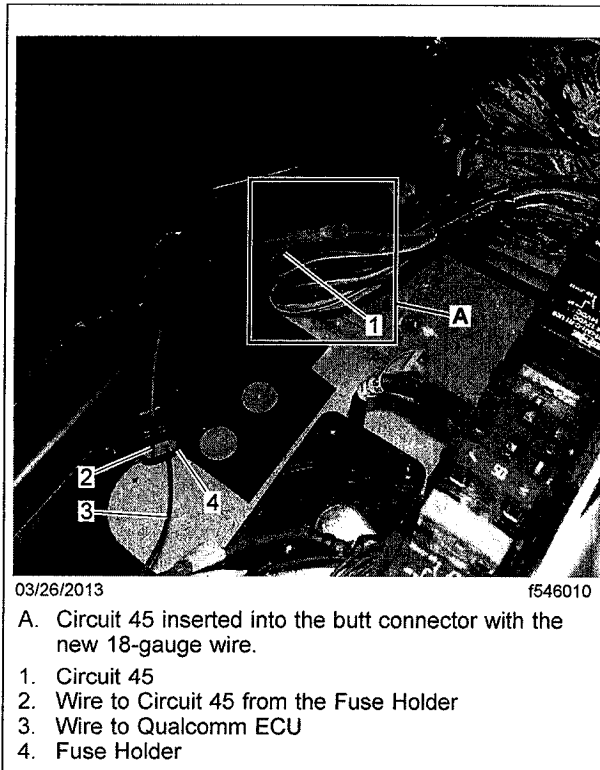

Fig. 6, Wire Re-Routed to Qualcomm ECU
10. Splice the new wire into circuit 45. See **Fig. 6**.